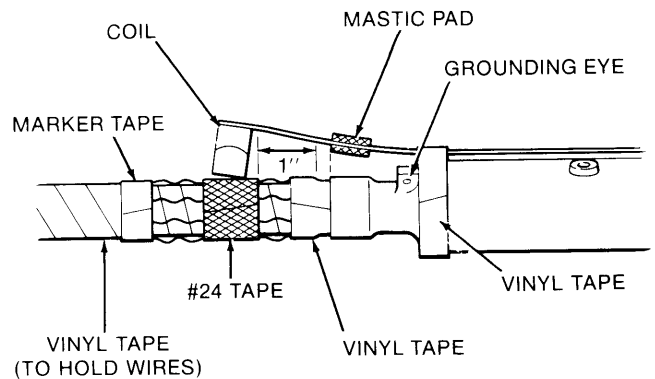

Figure 8
- b. After removing liner, place one pad **under** strap, mastic side toward strap and located over the end of the splice body (Figure 8). Place a second pad over the strap and the first pad and press together, mastic to mastic, forming a sandwich. (This will be overwrapped with #13 Tape).